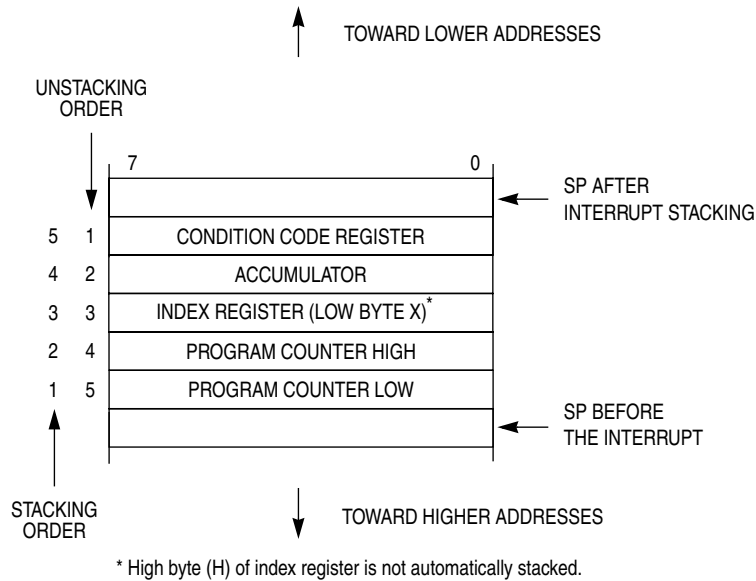

Figure 5-1 Interrupt Stack Frame
Figure 5-1 shows the contents and organization of a stack frame. Before the interrupt, the stack pointer (SP) points at the next available byte location on the stack. The current values of CPU registers are stored on the stack starting with the low-order byte of the program counter (PCL) and ending with the CCR. After stacking, the SP points at the next available location on the stack, which is the address that is one less than the address where the CCR was saved. The PC value that is stacked is the address of the instruction in the main program that would have executed next if the interrupt had not occurred.